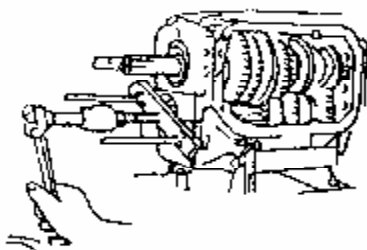

Figure 7-2-7
- (1) Remove odometer drive gear and cable sleeve;
- (2) Remove shafts and forks from transmission housing;
- (3) Remove inner/outer retaining rings from countershaft bearing;
- (4) Remove countershaft rear bearing with special tool (figure 7-2-7);
- (5) Remove countershaft front shaft with same method (figure 7-2-7);
- (6) Remove input shaft assembly;
- (7) Remove needle bearing and synchronizer ring;
- (8) Hammer output shaft front end with copper bar, move output shaft backward 3mm;
- (9) Remove rear bearing with dismantling tool;
- (10) Remove output shaft assembly from housing;